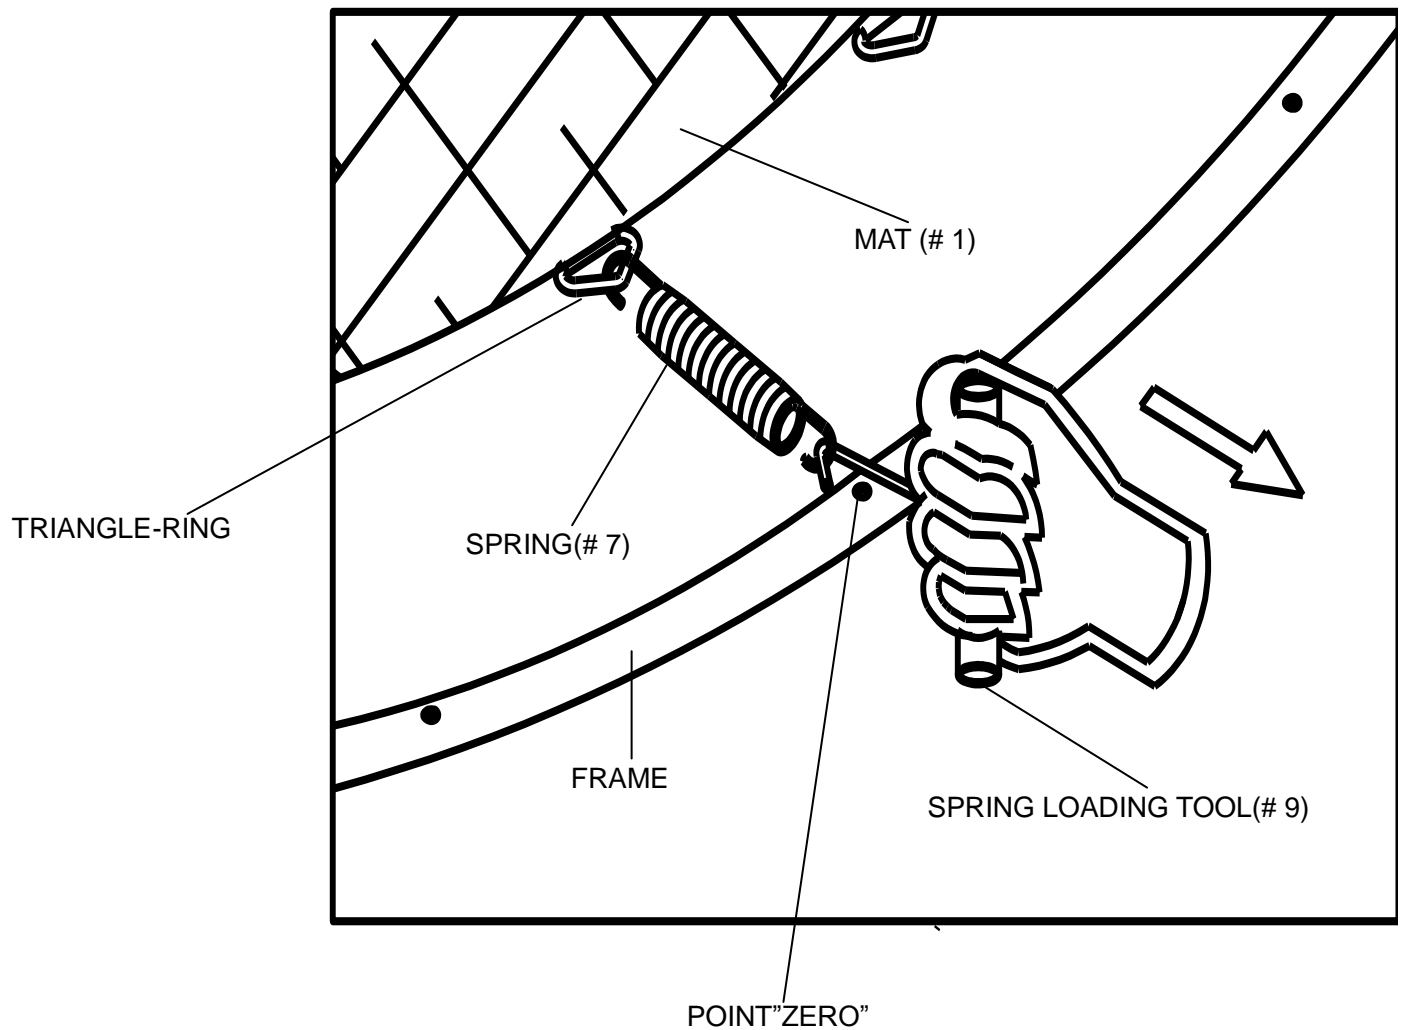

FIGURE 7
- B. Select an arbitrary point on the Frame (call it Point "ZERO"). Hook one end of the Spring (# 7) into the triangle-ring on the Mat (# 1). Holding the Spring Loading Tool underhand, pull the other end of the Spring towards point "ZERO" and drop the hook into the hole on the Frame as shown in FIGURE 7. Tap on the Spring to make sure it is securely latched into the hole.